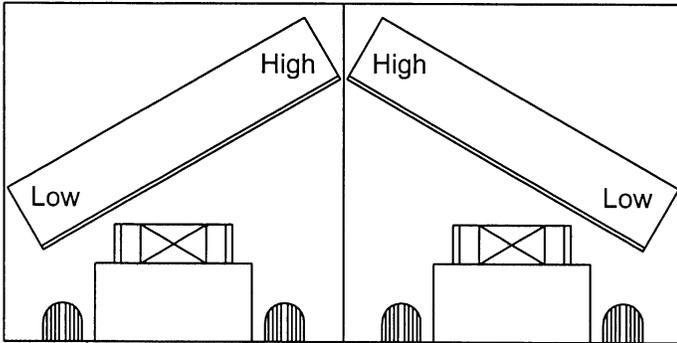

Figure 14
- Figure 14, extend tilt cylinders.